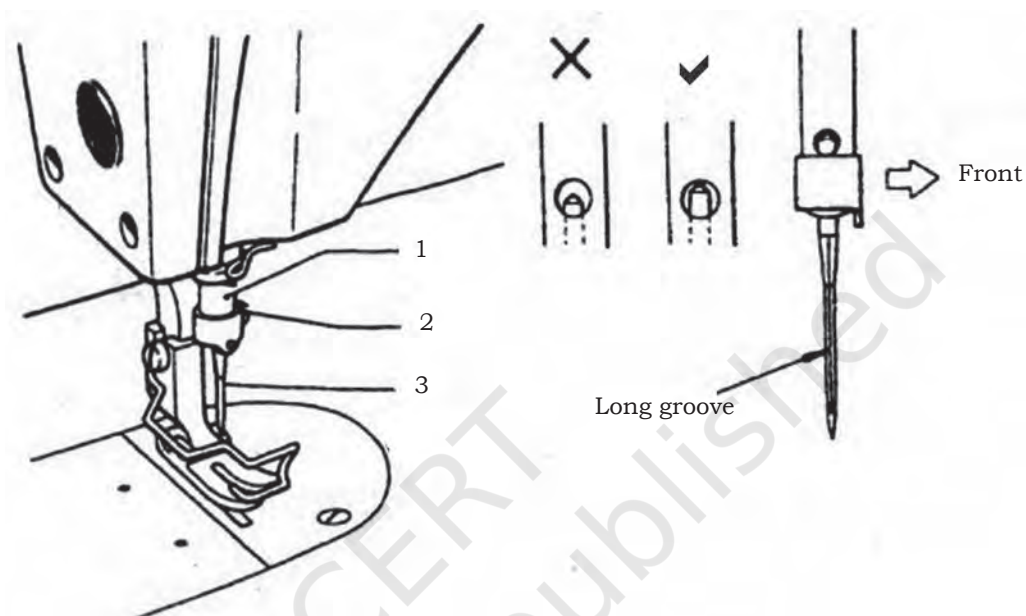

Fig. 2.38: Attaching the needle
1. Pull the needle bar to the highest level to insert the needle (Fig. 2.38 Label: 1).
2. Loosen the screw or needle clamp to fix the needle (Fig. 2.38 Label: 2).
3. Keep in mind that there is a groove. Insert the needle (Fig. 2.38 Label: 3) in a straight line in the groove and tighten the needle clamp securely and tightly to fix the needle properly.